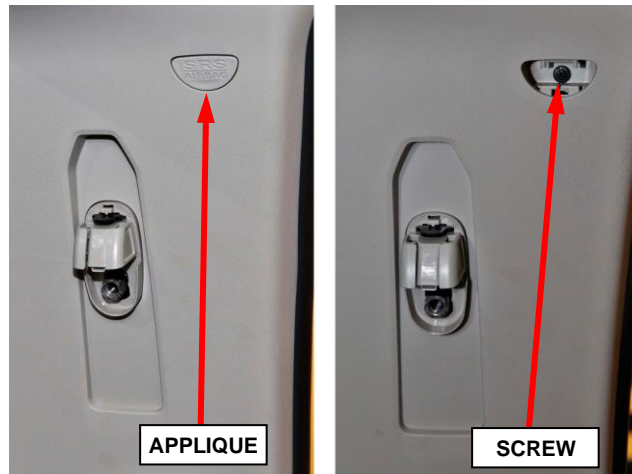

Figure 5 – B-Pillar Upper Trim Panel Fastener
- Using a trim stick or equivalent, release the B-pillar airbag applique then remove the screw that secures the upper trim panel (Figure 5).